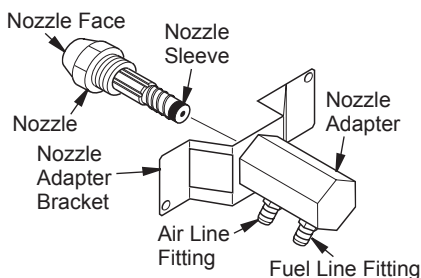

Figure 28 - Nozzle and Nozzle Adapter
5. Carefully remove nozzle from nozzle adapter using 5/8" socket wrench (see Figure 28).